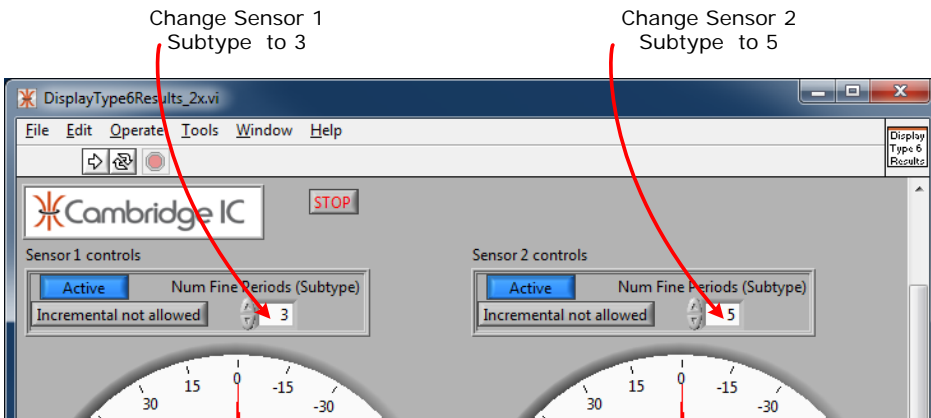

Figure 4 Configure Display for Type 6 Results with Sensor Subtype numbers
Then click on the **run** button. This will start measurements, and launch the **Display Type 6 Results** window illustrated in Figure 4.
**Sensor Subtypes** must be changed as show in Figure 4. Change sensor 1's Subtype to 3 (for 35mm Type 6.3 sensor) and change sensor 2's Subtype to 5 (for 55mm Type 6.5 sensor).